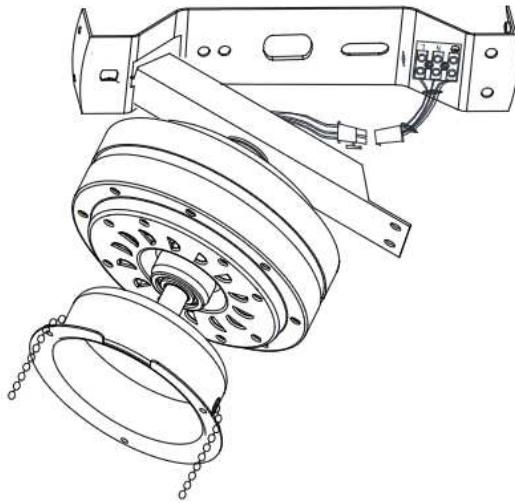

Fig. 5
- After completing the electrical wiring at the mounting bracket terminal and connecting the fan motor and fixed wiring via the 4-ports quick connectors. Fig.5.